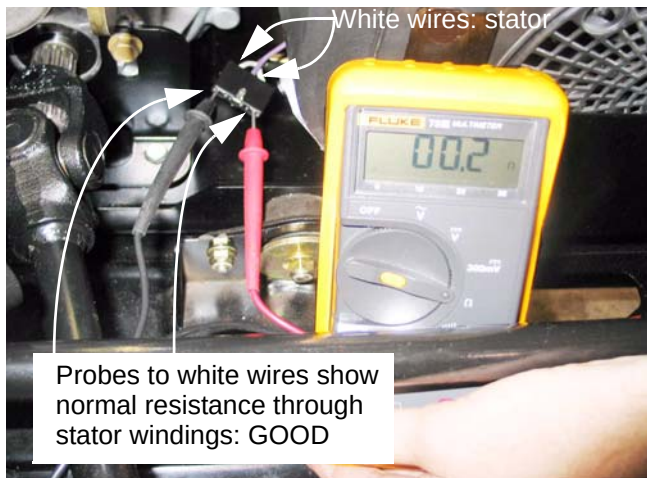

Figure 7.28
- 2b. Check the stator for resistance across the leads. It should be in the range of 0.1 - 0.2Ω. See Figure 7.28.